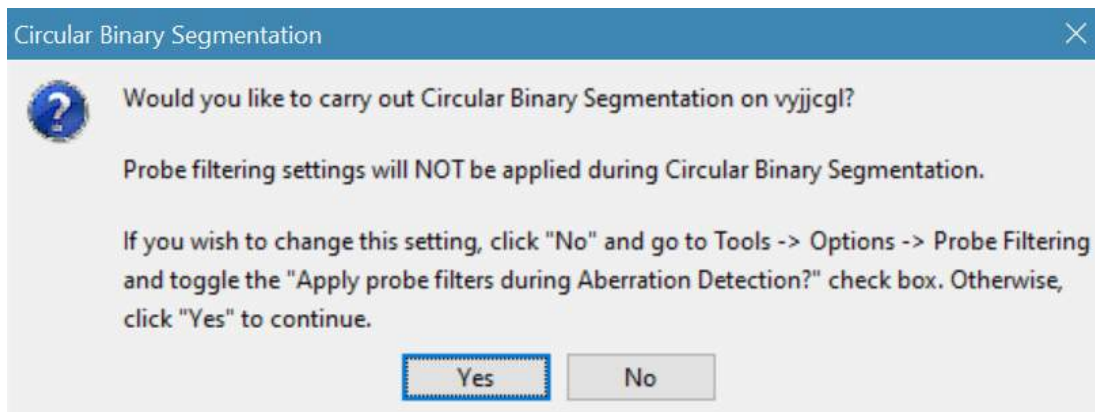

Figure 4: Circular Binary Segmentation window.
2. Choose **Tools -> Identify Aberrations** from the toolbar. A window will be displayed asking if you want to carry out Circular Binary Segmentation on your sample, choose **Yes** (Figure 4).